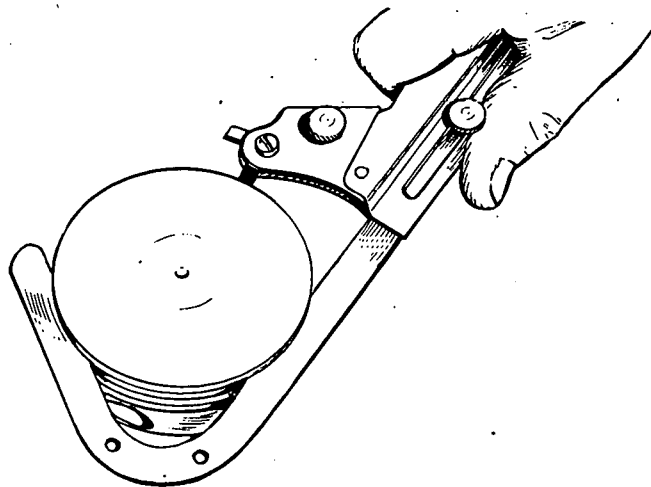

FIGURE 51. PISTON GROOVE CLEANING
7. Clean the piston ring grooves with a groove cleaner or the end of a piston ring filed to a sharp point (Figure 51). Care must be taken not to remove metal from the groove sides.